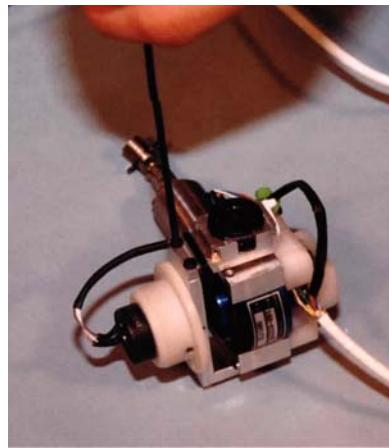

Figure 10.7- Yoke arm bolt
6. Locate the left DGSP unit (T1DPM000). Remove the two #4-40 x 3/8" SHCS {3/32} that hold the Right Yoke Arm (T1DPM213) to the Left Yoke Arm (T1DPM212) and Gimbal Assembly (T1DPM200), as shown in **Figure 10.7**.